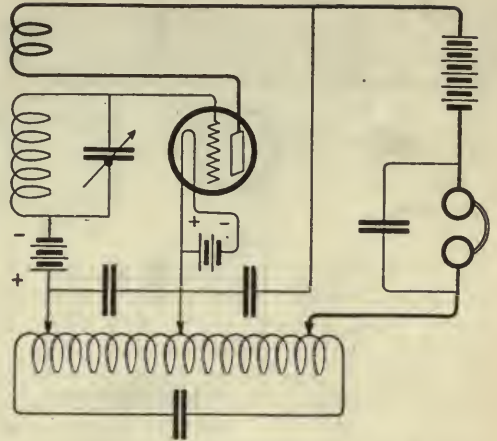
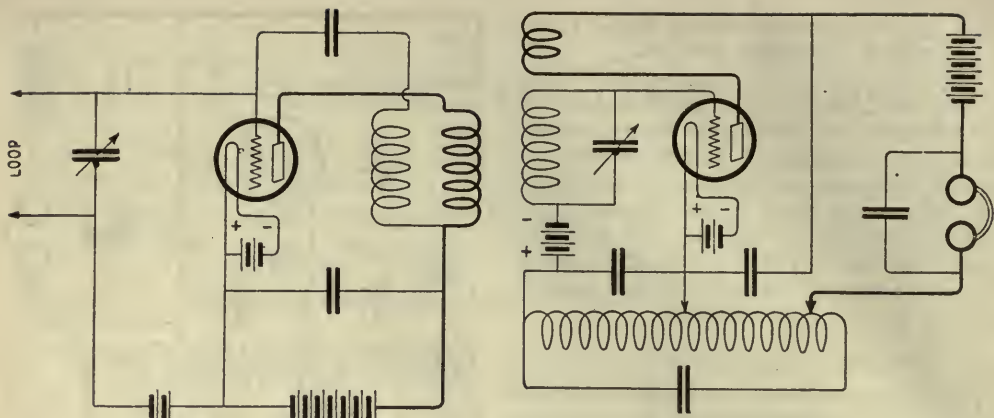

FIG. 2
FIG. 3
**I**N WORKING up a circuit such as this, the difficulties should be overcome, one by one, whenever possible. A good procedure would be to start with the super-regenerative circuit alone, as shown in Fig. 2, which differs from that published by the writer in the May, 1923, number of RADIO BROADCAST, in that provision is made for varying the grid and plate circuit couplings to the interruption frequency oscillation circuit independently of each other by means of a large number of taps on the inductance. Local stations can readily be received without a loop, the grid coil being sufficient to pick them up. After this one tube "super" is working perfectly, it is time to put the radio-frequency amplifier ahead of it, as Fig. 3 suggests. This, when properly adjusted for zero coupling, should make a tremendous difference and the set should now give loud-speaker volume with greatly improved selectivity.